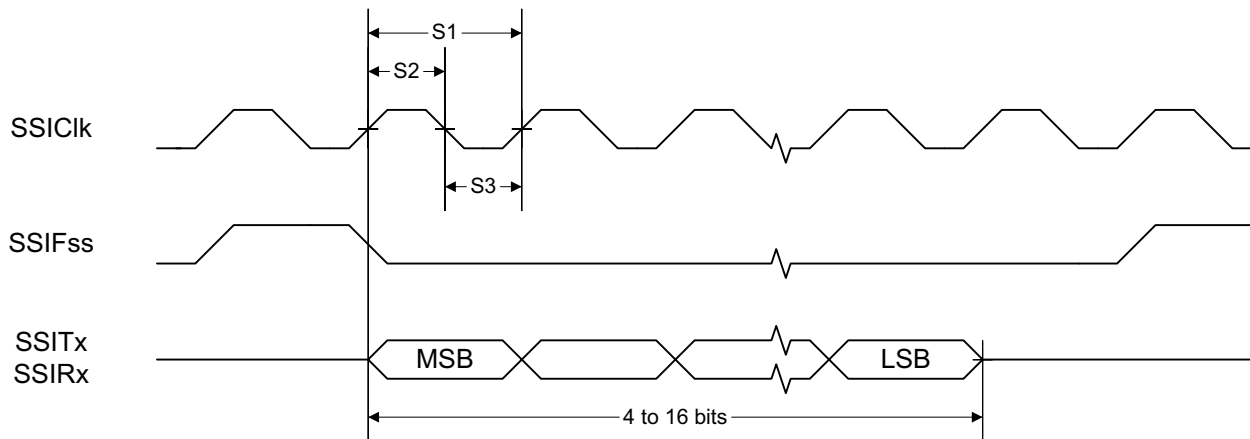
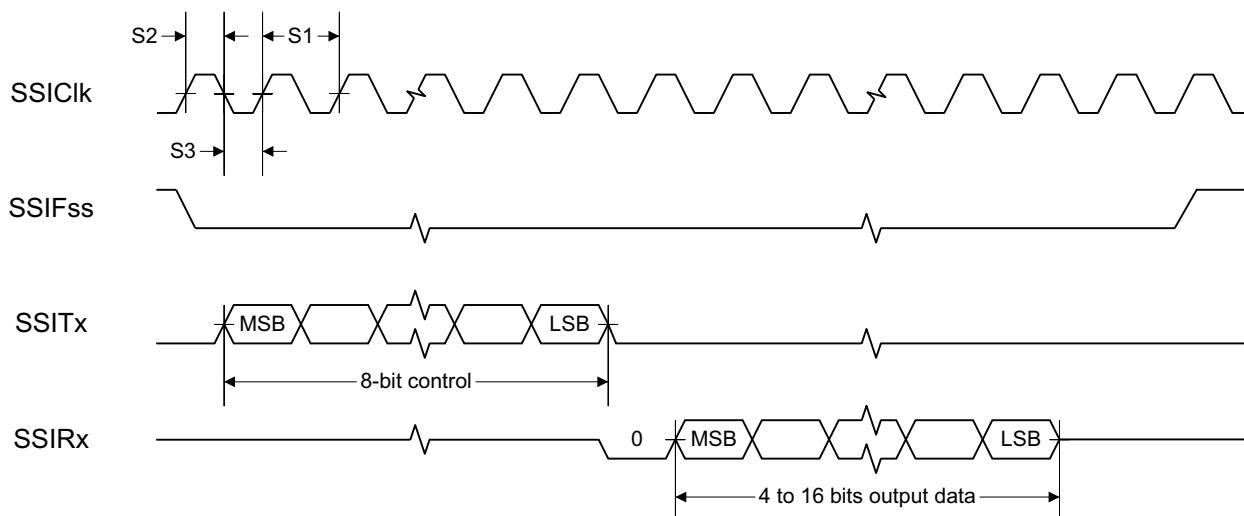
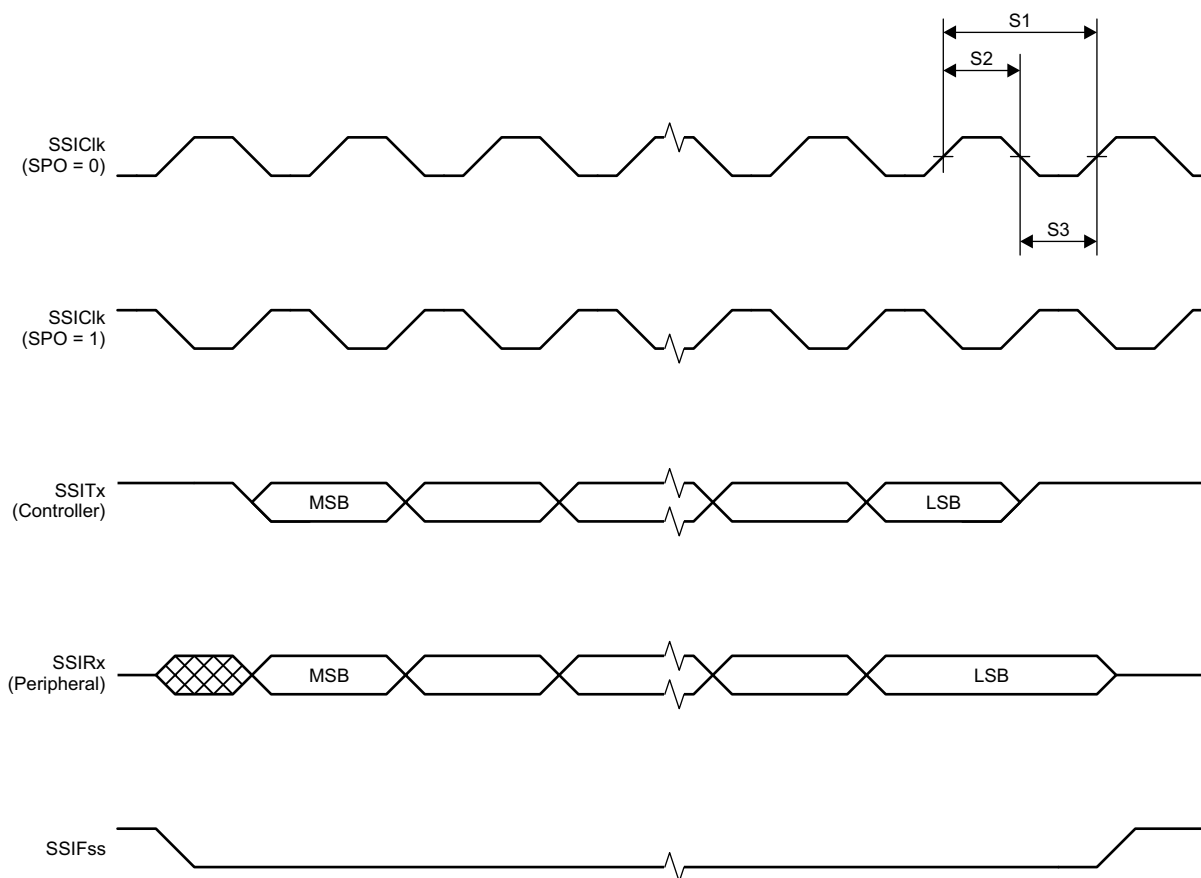

FIG 8-1. SSI Timing for TI Frame Format (FRF = 01), Single Transfer Timing Measurement
FIG 8-2. SSI Timing for MICROWIRE Frame Format (FRF = 10), Single Transfer
FIG 8-3. SSI Timing for SPI Frame Format (FRF = 00), With SPH = 1
- (1) Refer to SSI timing diagrams Figure 8-1, Figure 8-2, and Figure 8-3.
(2) When using the TI-provided Power driver, the SSI system clock is always 48 MHz.